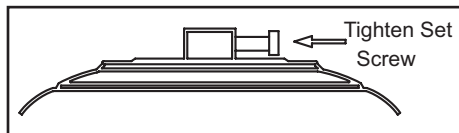

Figure 8
6. Re-tighten the set screws on the collar on top of the motor housing (Figure 8).